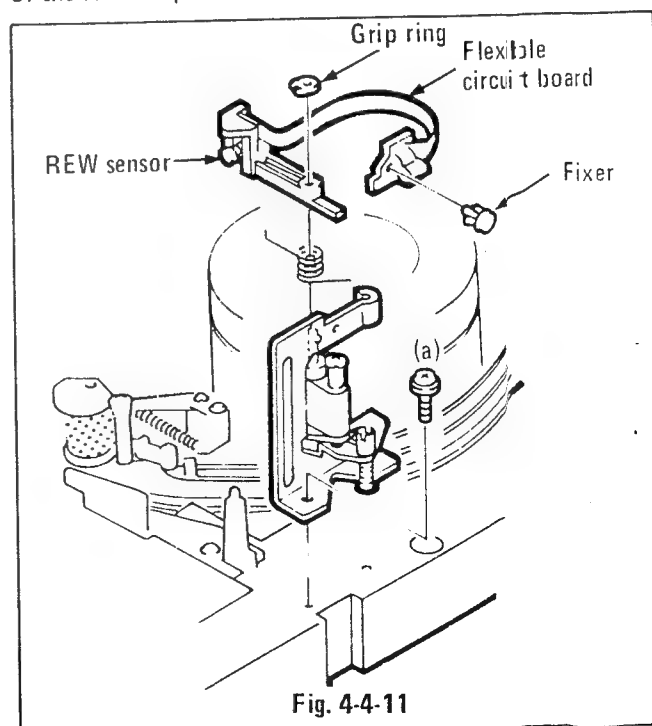

Fig. 4-4-11
11. REW SENSOR (See Fig. 4-4-11.)